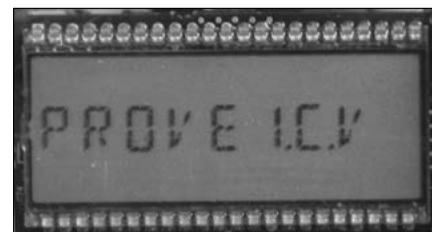

Figure 4 - LCD screen displays PROVE I.C.V
- After five seconds, the display will change to PROVE I.C.V (Figure 4).